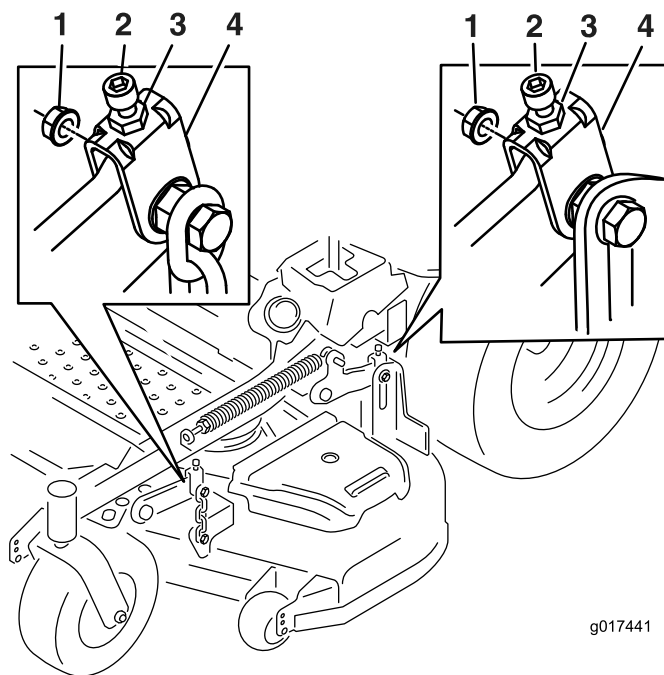

**Figure 70**
9. On both sides of the deck, measure from the level surface to the front tip of the blade (Position A). The measurement should read 3 inches (7.6 mm) (Figure 70).
15. On both sides of the deck, measure from the level surface to the back tip of the blade (Position B). The measurement should read 3 1/4 inches (8.3 cm) (Figure 70).